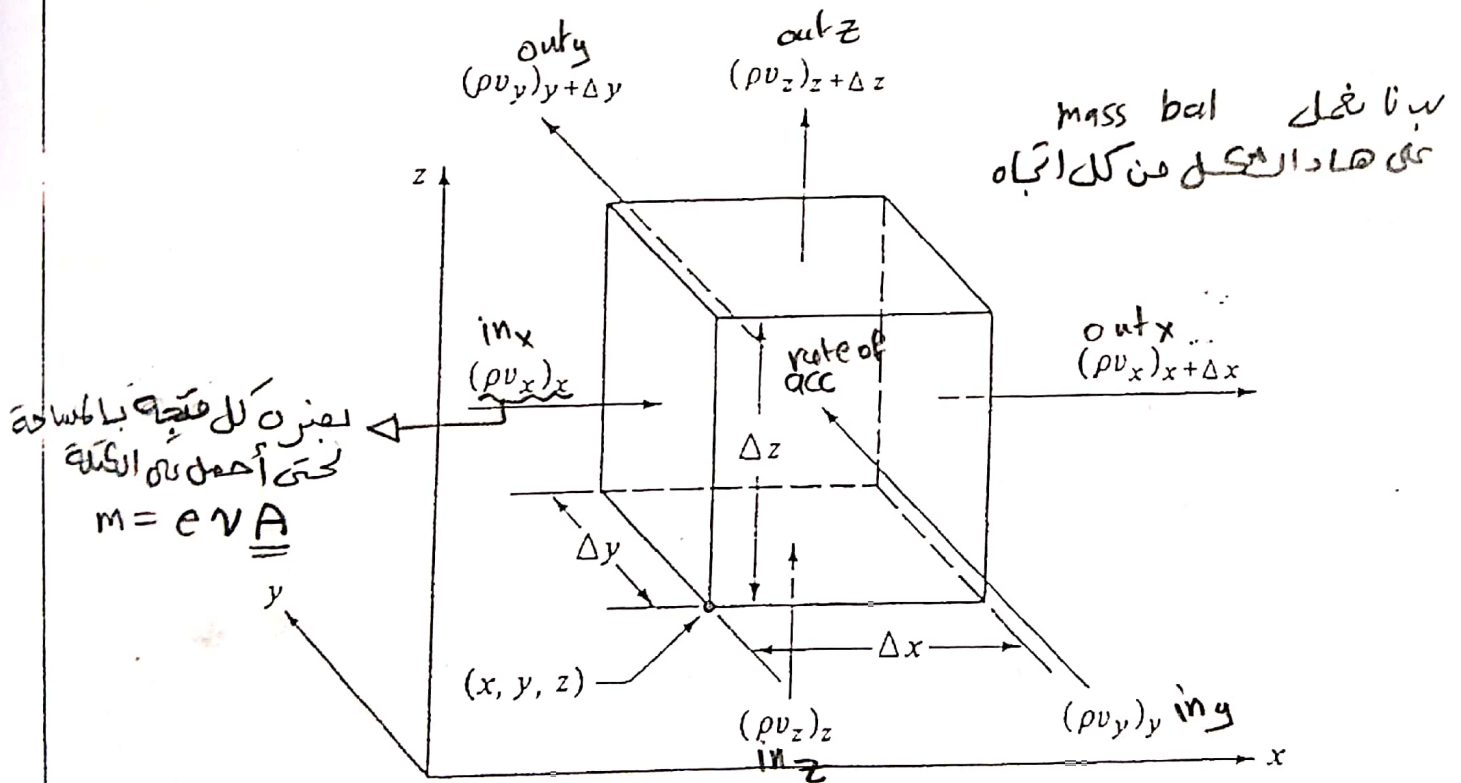

FIGURE 3.6-2. Mass balance for a pure fluid flowing through a fixed volume $\Delta x \Delta y \Delta z$ in space.
①. Derivation of equation of continuity A mass balance will be made for a pure fluid flowing through a stationary volume element $\Delta x \Delta y \Delta z$ which is fixed in space as in Fig. 3.6-2. The mass balance for the fluid with a concentration of $\rho \text{ kg/m}^3$ is
In the x direction the rate of mass entering the face at x having an area of $\Delta y \Delta z \text{ m}^2$ is $(\rho v_x)_x \Delta y \Delta z \text{ kg/s}$ and that leaving at $x + \Delta x$ is $(\rho v_x)_{x+\Delta x} \Delta y \Delta z$. The term (ρv_x) is a mass flux in $\text{kg/s} \cdot \text{m}^2$. Mass entering and that leaving in the y and the z directions are also shown in Fig. 3.6-2.